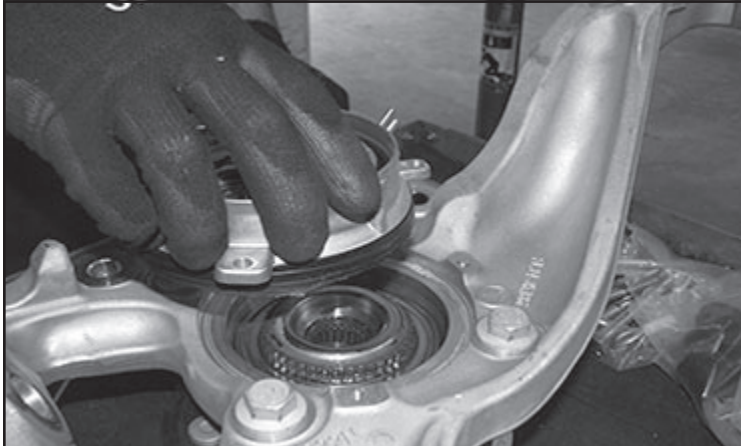

FIGURE 38 - STEP 39
36. Install the Driver side spacer on the driver side coilover using the factory hardware and torque to 35 ft-lbs. Repeat on the passenger side. **SEE FIGURE 38**